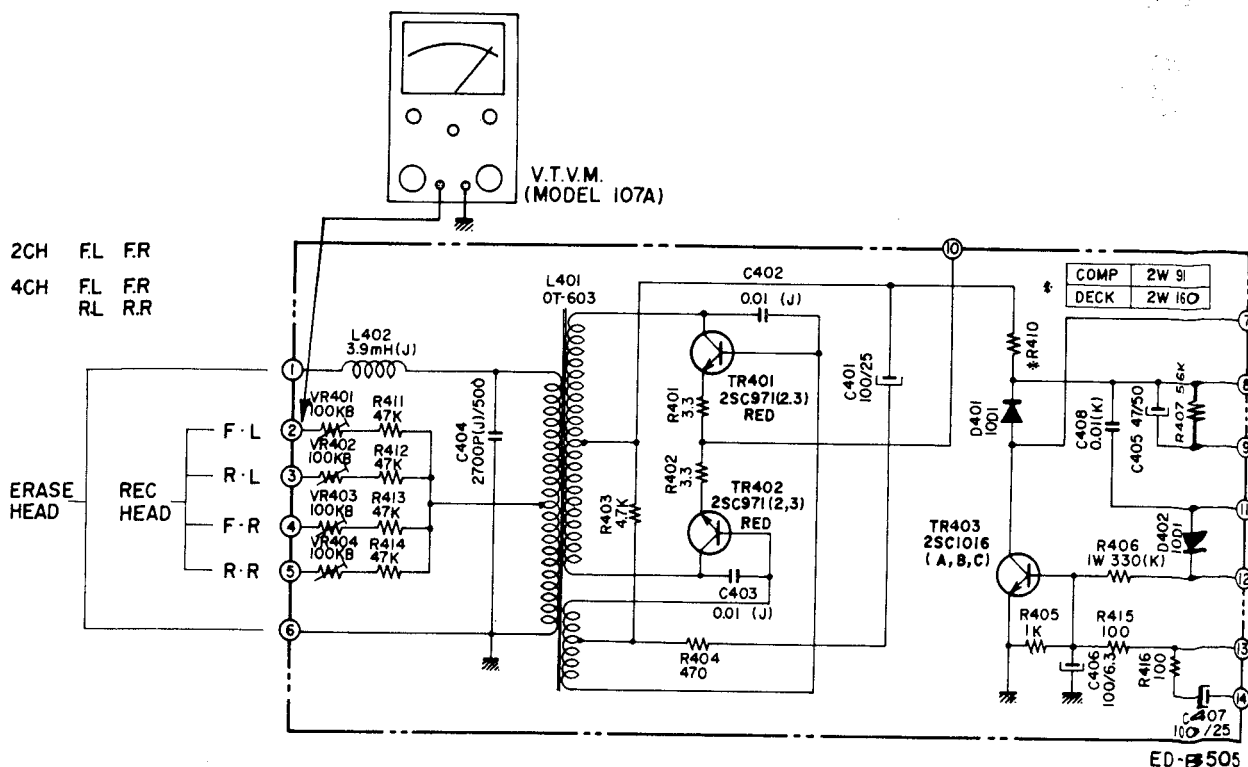

Fig. 8
2. ADJUSTMENT OF RECORDING BIAS VOLTAGE (See Fig. 8)